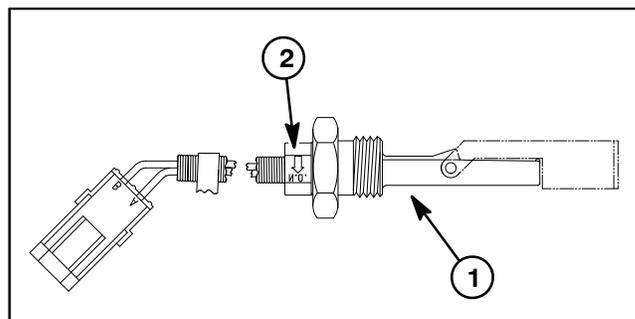

Figure 81
2. If oil level sensor was removed from reservoir, install sensor in reservoir making sure that arrow on sensor is pointing down (Fig. 81). Torque sensor nut from **110 to 140 in-lb (12.5 to 15.8 N-m)**.